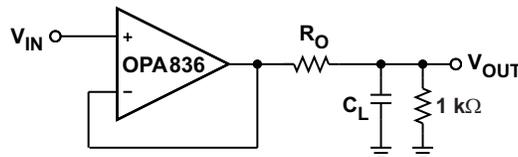
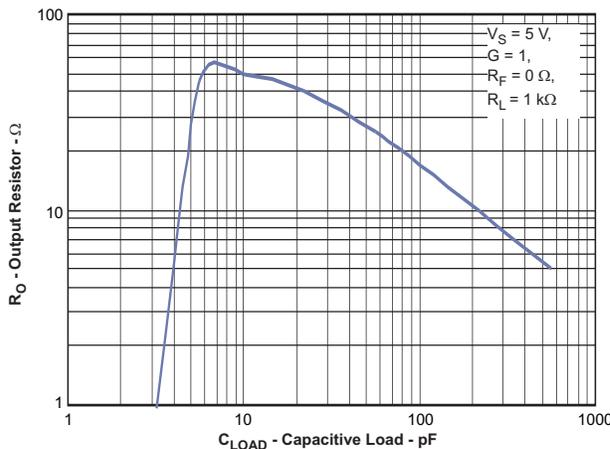
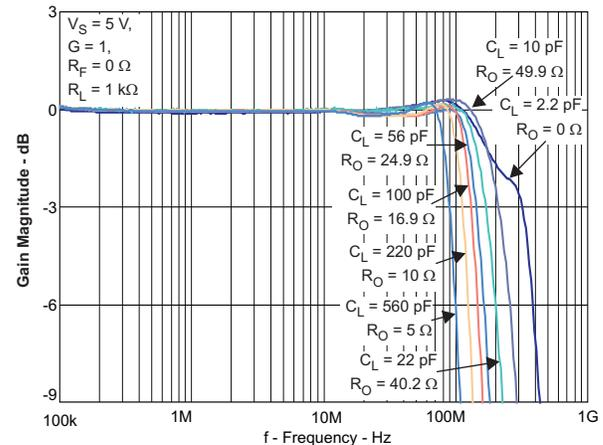

Figure 23. R_O versus C_L Test Circuit
Figure 24. Series Output Resistor vs Capacitive Load
Figure 25. Frequency Response with Capacitive Load
Figure 23 shows the test circuit and Figure 25 shows the recommended values of R_O versus capacitive loads, C_L . See Figure 24 for frequency response with various values.
4. A series output resistor is recommended to be placed as near to the output pin as possible. See "Series Output Resistor vs. Capacitive Load" (Figure 24) for recommended values given expected capacitive load of design.